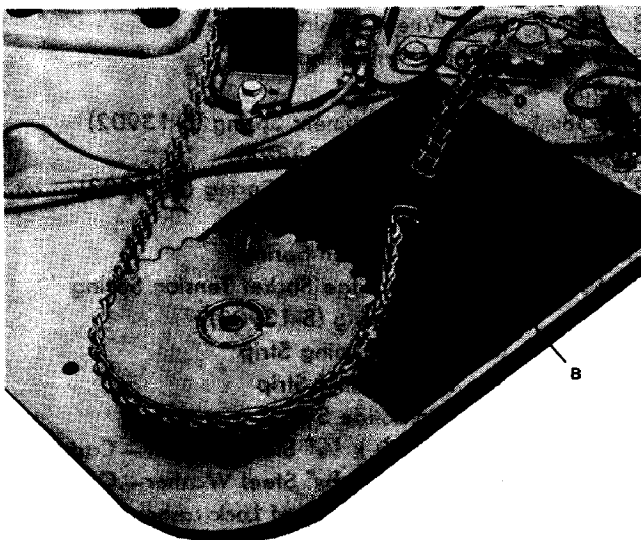

Fig. 12. Replacing the Chain.
The chain may be removed by loosening the adjustable idler (Screws "D", Fig. 12), and opening one of the links (B) It will be noted that on some models the open ends of the links face inward while on others outward as in Fig. 12. The reason for this is to get the quietest operation. Normally the open ends of the links will face outward with all replacement chains.